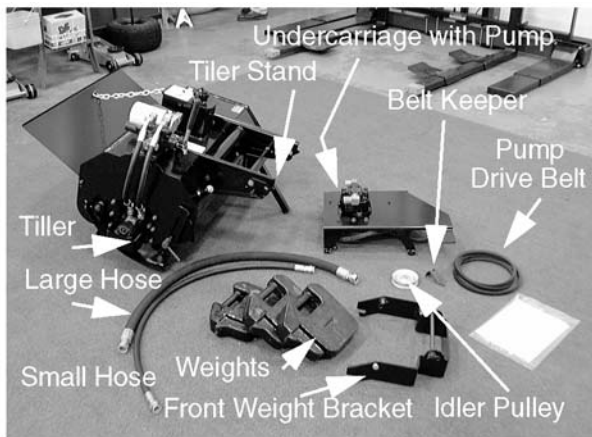

Figure 8-56.
1. Remove all loose components from the carton. Refer to the Owner's Manual for the parts list. See Figure 8-56.